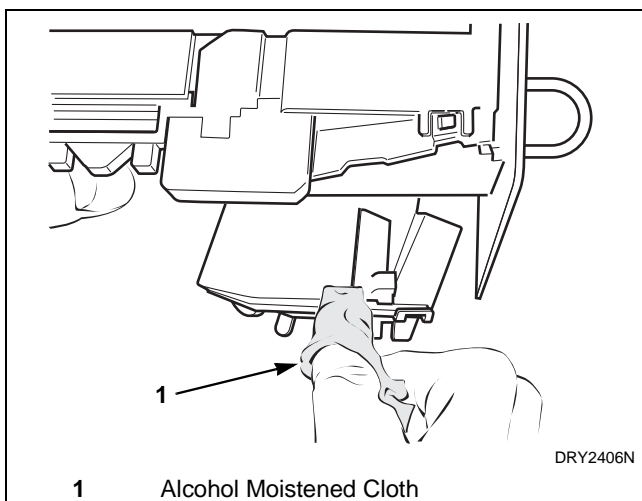

Figure 16
5. Clean residue from coin rail with an alcohol moistened cloth. Refer to *Figure 16*.